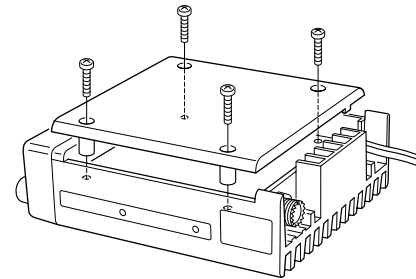

Fig. 1
- ① Turn OFF the power, then disconnect the DC power cable.
- ② Unscrew the 4 screws, then remove the bottom cover. (Fig. 1)